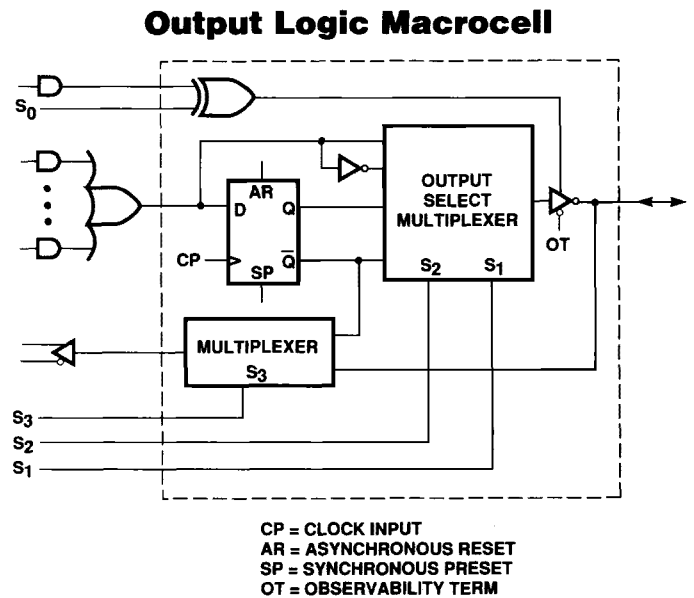
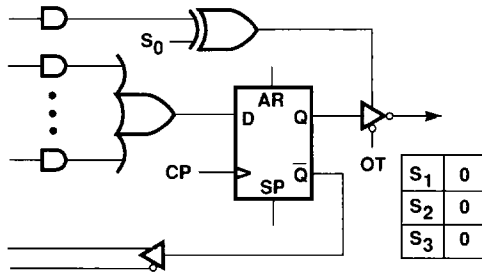

Figure 1
Figure 2a. Registered Feedback, Registered Output, Active-LOW Output
Figure 1, each OLM contains four programming inputs: S₀, S₁, S₂, and S₃. The S₀ programming input specifies the polarity of the Output Enable (OE) signal for the individual output as shown. Depending on the configuration of the S₁, S₂, and S₃ programming inputs, an individual output will operate in one of eight modes outlined in Figure 1. The resulting increase in I/O configuration flexibility enables the designer to optimize the device for precise application requirements. Figures 2a through 2h show all eight possible configurations of the OLM outlined in Figure 1.